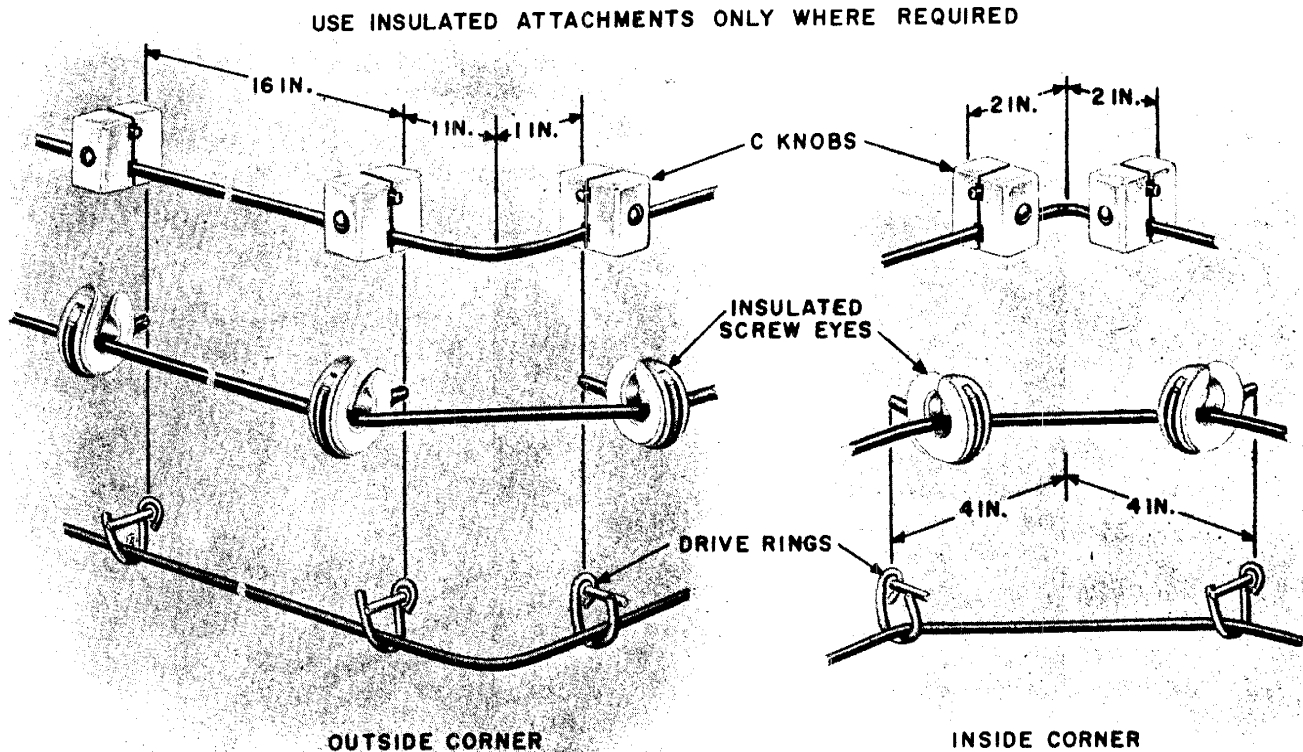

Fig. 5 — Attachments Inside of Building
6.03 Space attachments 16 inches apart on runs between the point of entrance and the protector or connecting block. Spacing will vary at corners with type of attachment used. (See Fig. 5.)